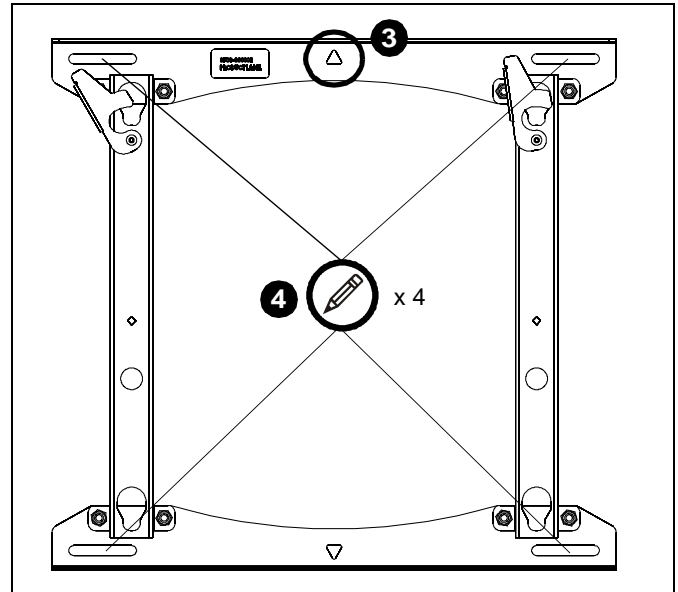

Figure 2
3. Use a nail as a temporary mount and hang the PST16 on the wall using the triangular hole in the center of the PST16. (See Figure 2)
4. Level the PST16 and mark the four mounting holes. (See Figure 2)